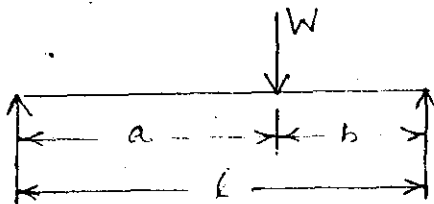

Fig. 3.
- VI. (a) Find the slope and deflection at the load point for a simply supported beam as shown in figure 3. (10)